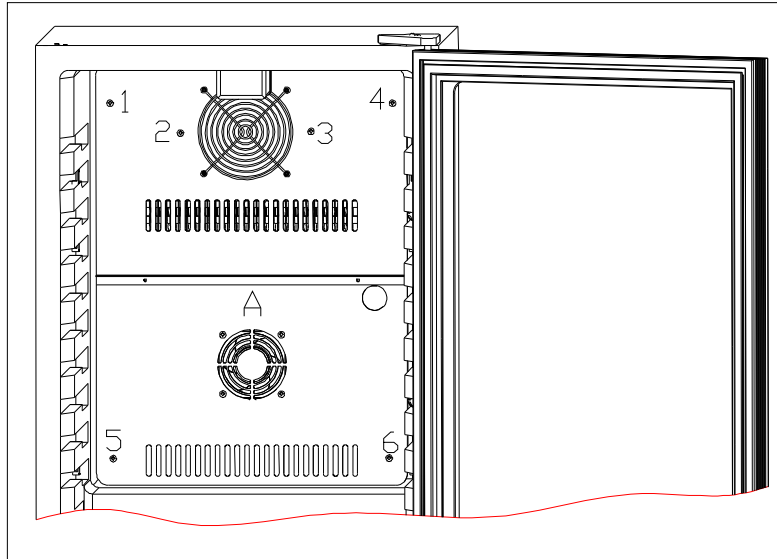
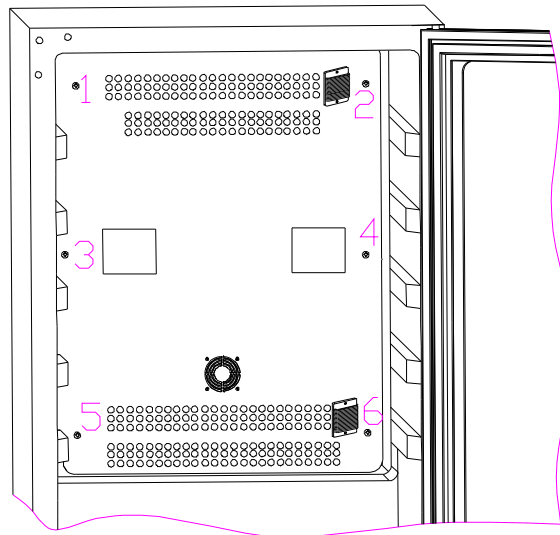

Fig.17
Fig.18
a.Remove the fixing screws of air duct board (1,2,3,4,5,6), then pull out air duct board (A). See (Fig 17)
b.Remove the fixing screws of air duct board (1,2,3,4,5,6), then pull out air duct board (A). See (Fig 18)
3). Remove the air duct board. See (Fig.17 &Fig.18)